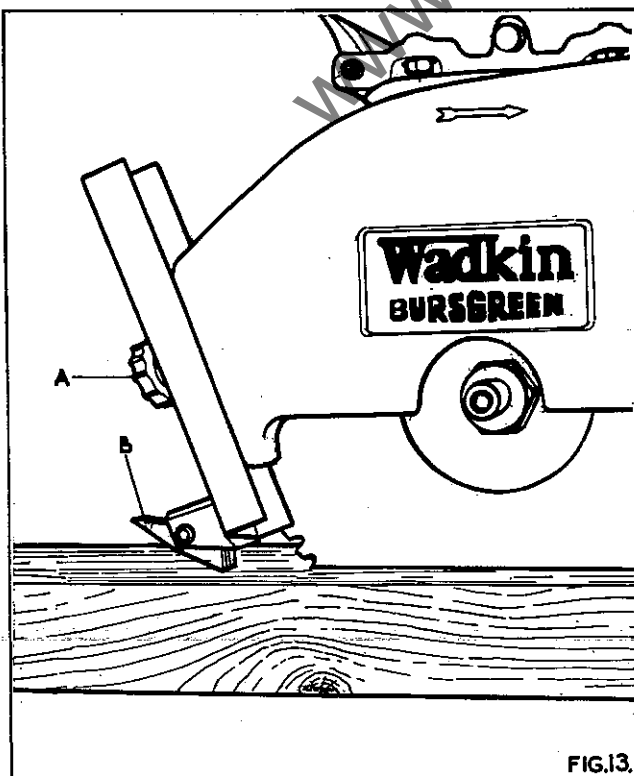

FIG.13.
The guard gives maximum protection for all operations. The guard is fitted with an anti-kick back device as shown in Fig. 13 and riving knife for ripping. The riving knife is easily detachable and can be replaced by a sheet steel visor when used for crosscutting. The visor is adjustable throughout the full depth of cut of the machine.
1. Place timber to be ripped in kick back fingers as shown in Fig. 13.